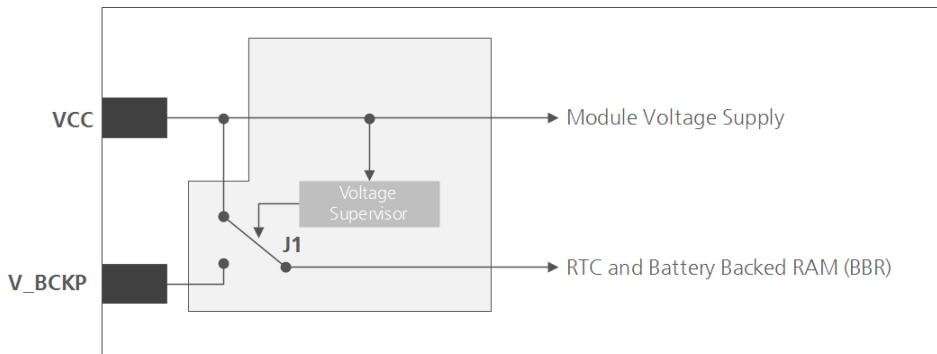

Figure 1: Backup battery and voltage (for exact pin orientation, see the *NEO-M8U Data Sheet* [1])
-  As long as power is supplied to the NEO-M8U module through the **VCC** pin, the backup battery is disconnected from the RTC and the BBR to avoid unnecessary battery drain (see Figure 1). In this case, **VCC** supplies power to the RTC and BBR.